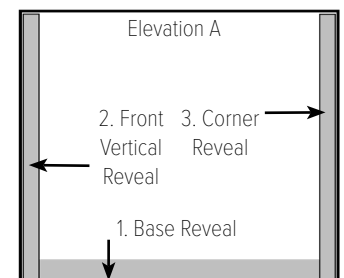

Figure 2.3.2
2.3.2 Place the corner reveal on the floor, against the wall & over existing base & apply light pressure to the length of it as shown in Figure 2.3.2.